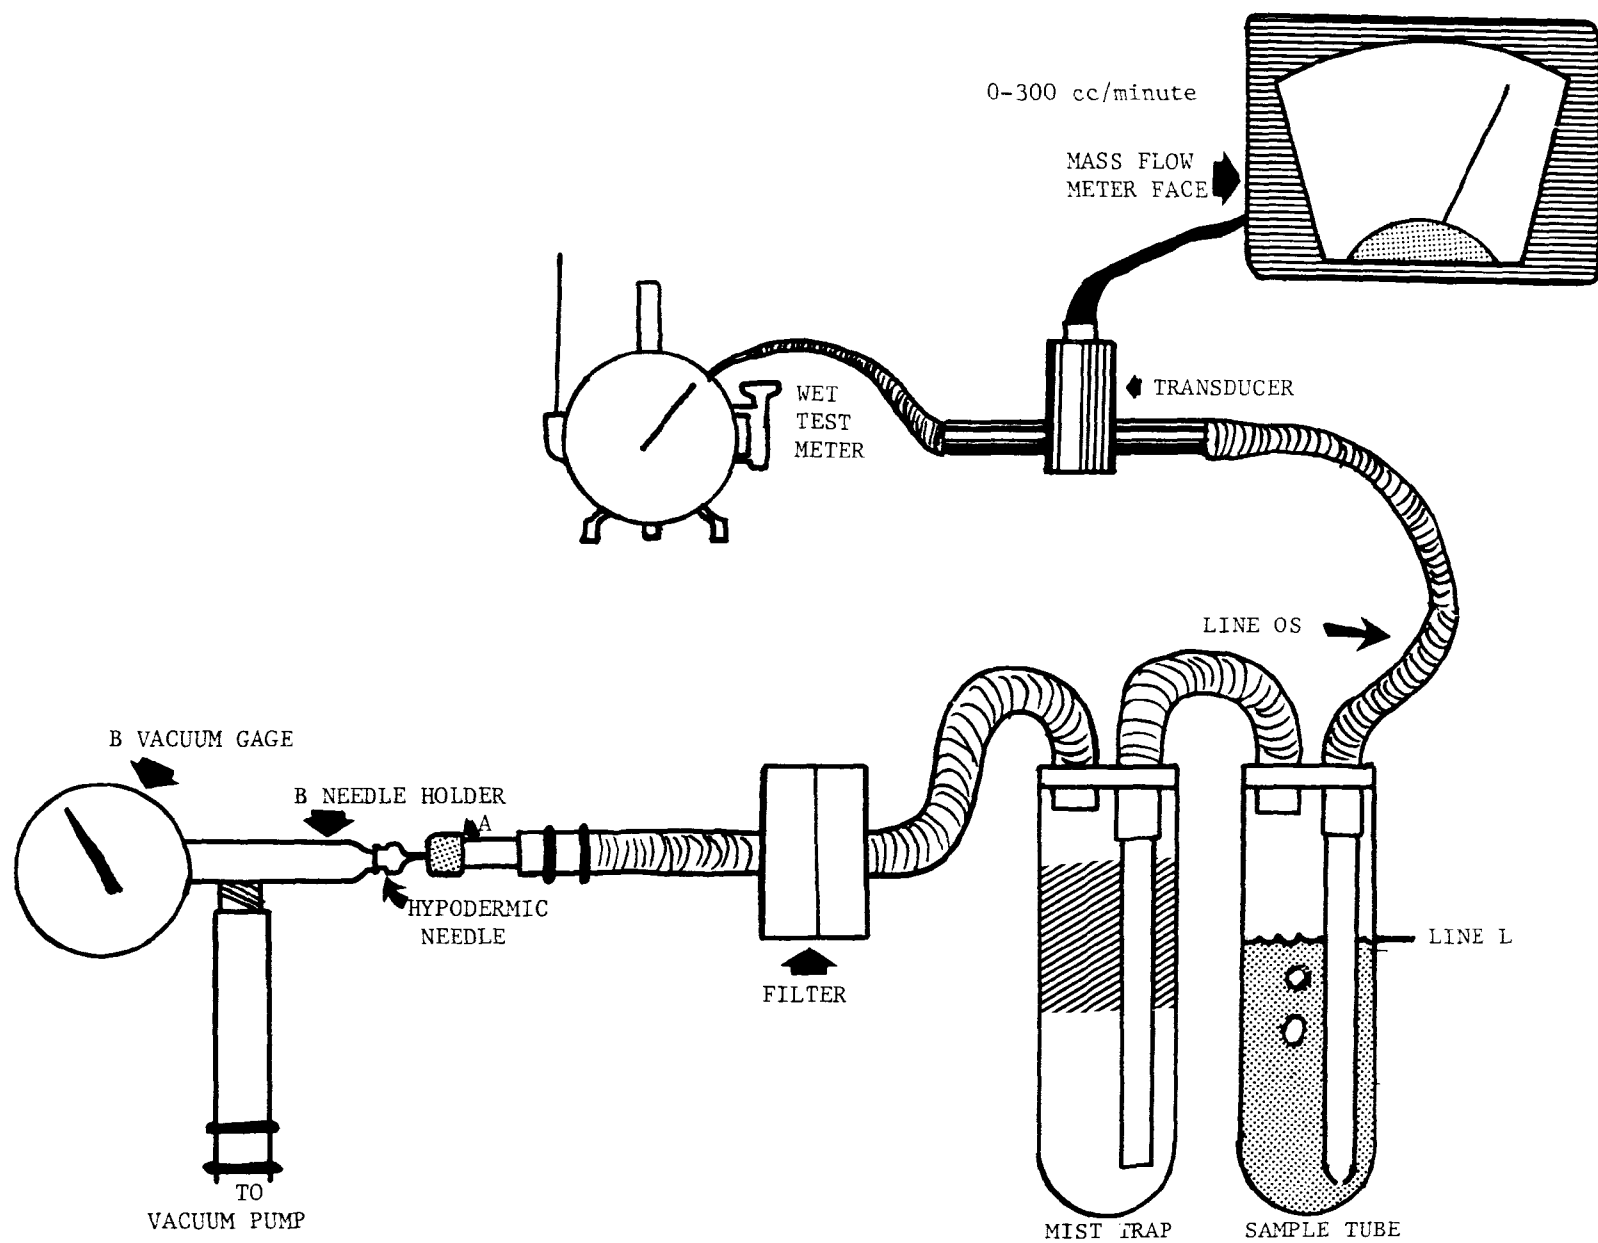

Figure 29
Step #4: Set up the calibration apparatus as shown in Figure 29.
- Unplug the inlet and outlet of the transducer and connect it as illustrated in Figure 29.